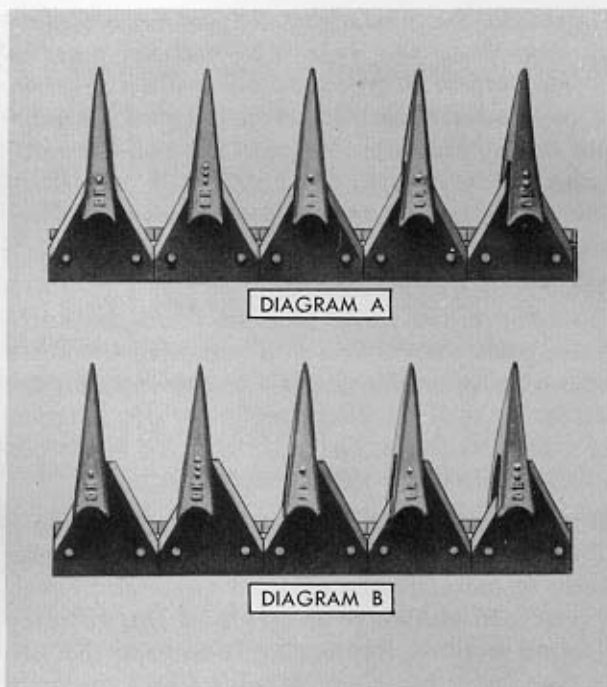

Figure 24
Figure 24, when the pitman arm is at either end of its stroke. If the knife sections are out of register, see diagram B, Figure 24, adjust as follows. Remove the cotter pin and loosen the nut (4), Figure 15, add or remove shims (6) to the drag bar (5) and tighten the nut (4). Secure the nut with the cotter pin provided.